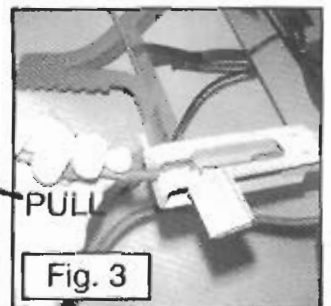

Fig. 3
C. Pull the cable towards the back of the tree and "seat" one of the cable stops against the back of the bracket, as shown in **Figure 3**.